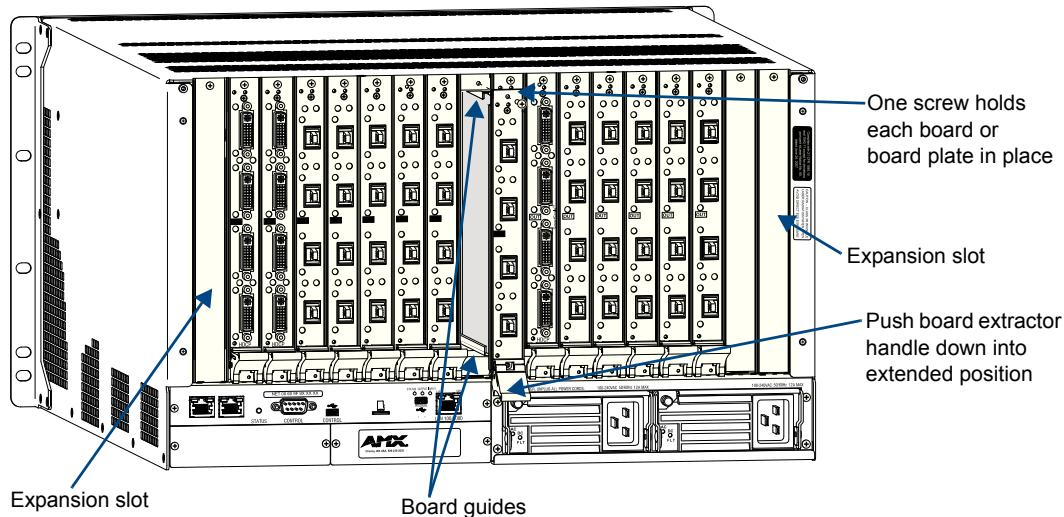
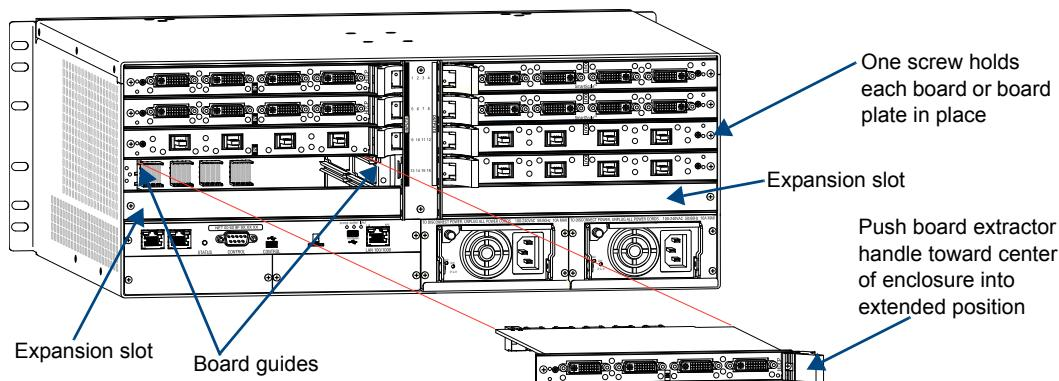

FIG. 125 Enova DGX 32 - Remove screw, push board extractor handle down, and then pull board straight out
FIG. 126 Enova DGX 8 (16/64) - Remove screw, push extractor handle right (input) or left (output), pull board straight out
5. **Remove blank board plate** – Remove the screw that holds the board plate in place (for Enova DGX 32, see FIG. 125; for Enova DGX 8/16/64, see FIG. 126). Pull the plate out of the board slot opening (the tab on the end of the board plate fits in a slot near where the ejector handle would otherwise go). The plate consists of an aluminum sleeve with a black metal piece, which slides in and out of the sleeve, and an EMI (Electromagnetic Interference) gasket.
Remove current board – Remove the pan head screw that holds the board in place (for the Enova DGX 32, see FIG. 125; for the Enova DGX 8/16/64, see FIG. 126). Push on the board’s extractor handle as far as it will go (about a 45° angle). With the handle extended, carefully pull the board straight out of the board slot. Place the board in an ESD approved static shield bag and set aside.
AIE Boards can only be installed in an expansion slot (FIG. 125 and FIG. 126).
7. **Install board in Enova DGX 32** – With the board’s extractor handle in the extended (unlocked) position, line up the board’s edges on the board guides that are along the top and bottom of the board slot (FIG. 125).
Install board in Enova DGX 8/16/64 – With the board’s extractor handle in the extended (unlocked) position, line up the board’s edges on the board guides that are along the left and right of the board slot (FIG. 126). Note that input boards have board guides at the top of the slot and board guides for the output boards are at the bottom of the slot due to their reversed orientation in the enclosure.